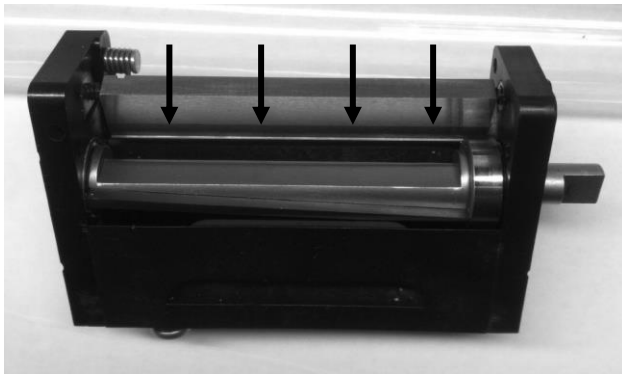

Figure 18f. Stationary Blade
3. With knife cover removed use a cotton swab with alcohol and buff off adhesive build up in areas noted in figures 18f and 18g.